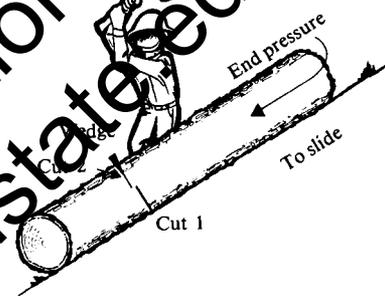

Figure 21.—Bucking with end pressure.
**Other bucking situations.** Several other situations are commonly encountered during bucking. Logs supported throughout their length on a slope may have end pressure (see figure 21.). The upper log may